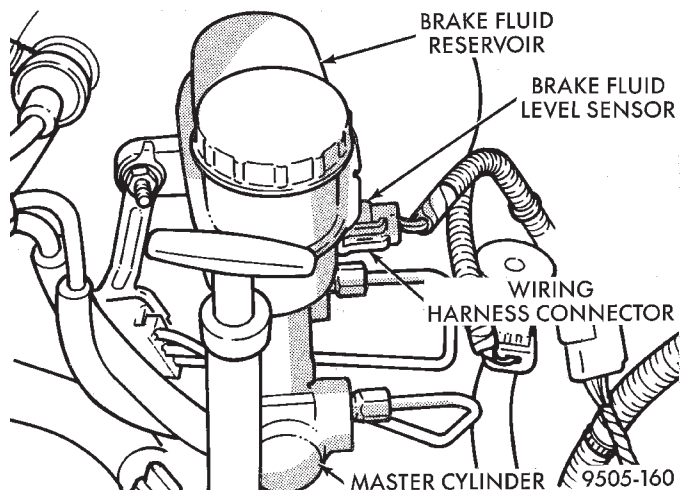

**Fig. 81 Master Cylinder Fluid Level Sensor**
(1) Remove wiring harness connector from brake fluid level sensor in master cylinder brake fluid reservoir (Fig. 81).
(5) Install the connector from the vehicle wiring harness on the fluid level sensor in the master cylinder fluid reservoir (Fig. 81)